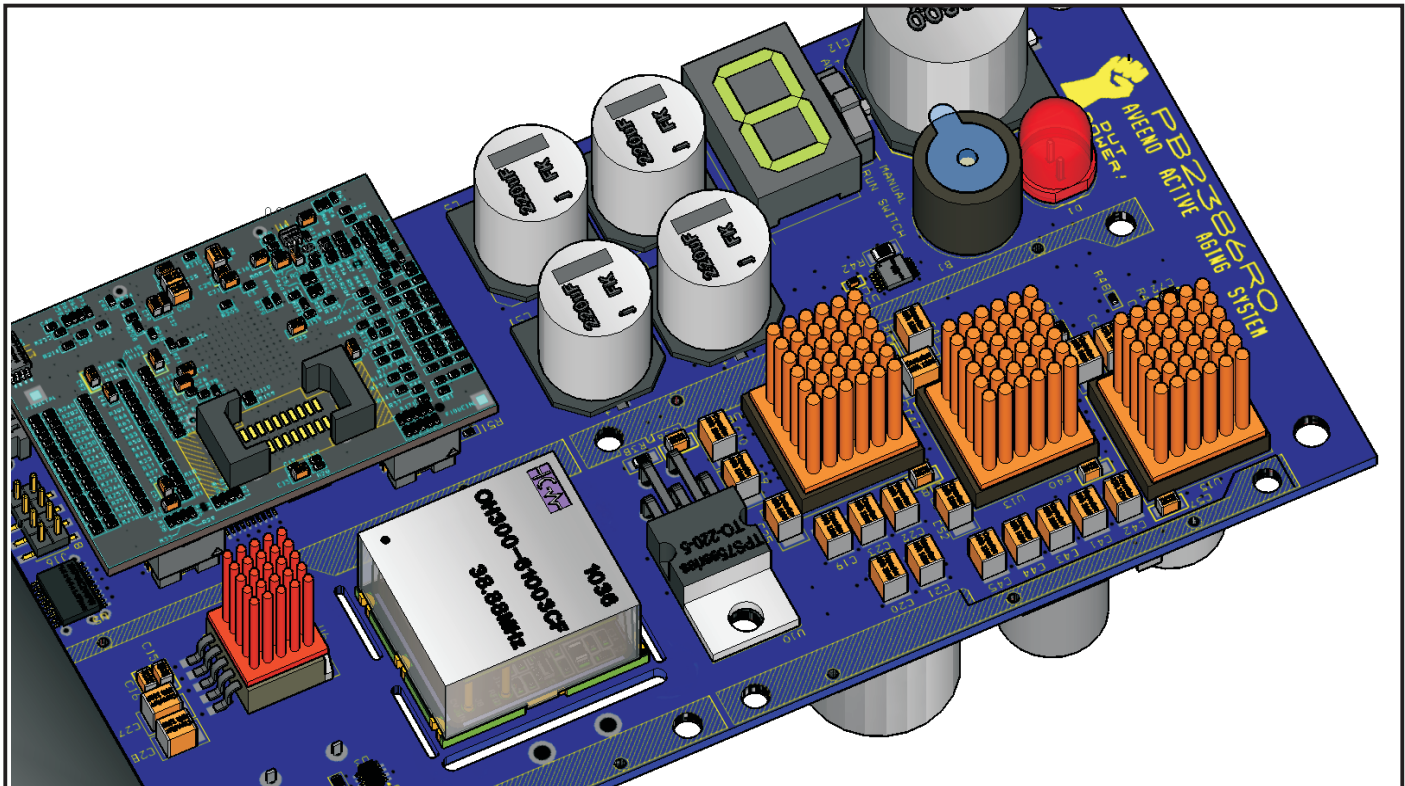

Figure: 17-01
- Optionally a thermal “moat” can be created to prevent thermal energy transfers between the OCXO and board as seen in Figure 17-01. A thermal moat is a routed area around the OCXO and is very effective means to prevent losses from the oscillator while still allowing a top layer pour on the board to heat sink cool other electrical components.